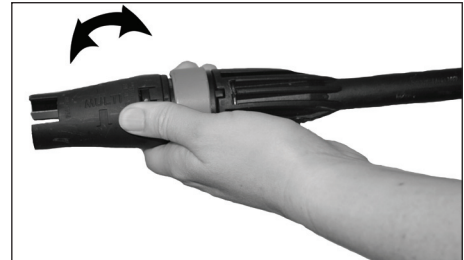

Figure 12 - Spray Adjust
4. Spray pattern shape and intensity can be changed by twisting the spray adjuster at the end of the lance (see Figure 12 & 13). Keep hands clear of the front of the lance to prevent injury.